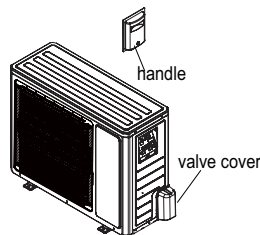

Fig.21
- (1) Remove the screw on the right handle and valve cover of outdoor unit , then remove the handle and valve cover.(As show in Fig.21)